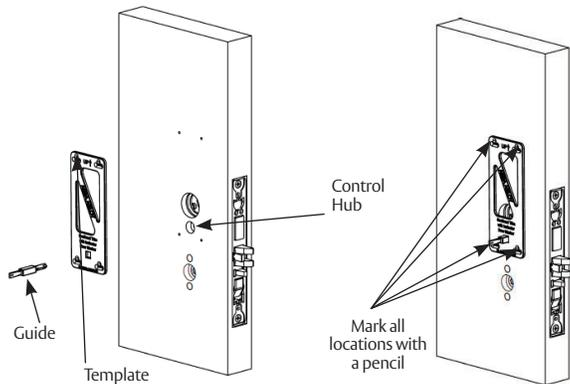

Figure 13
2. Slide indicator template over template guide. (Figure 13)
3. Mark the four (4) hole positions indicated on template.
7. Drill four (4) marked holes with 3/32" diameter bit, by 1/2" deep.